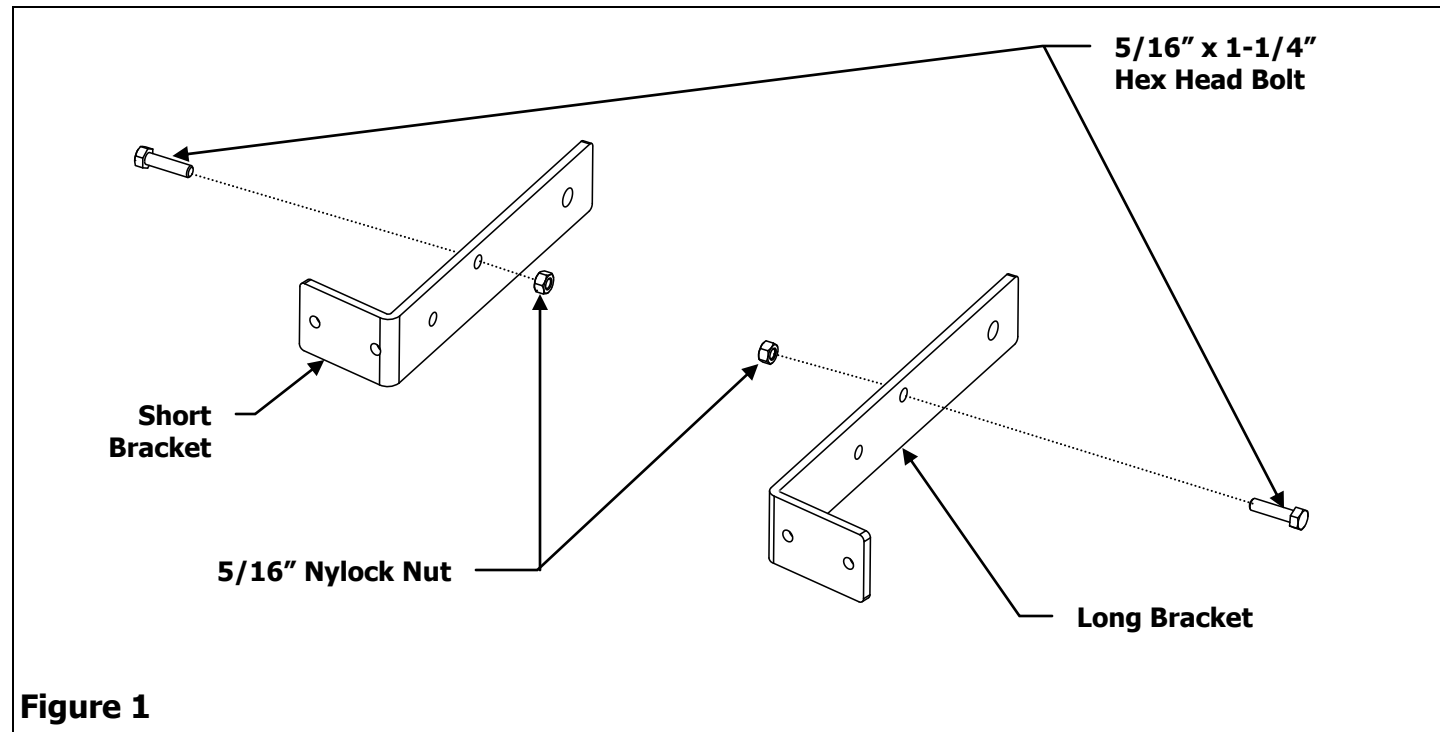

Figure 1
**1 (800) 225-589**
1. Insert a 5/16" x 1-1/4" Hex Head Bolt into the top center hole of both the Short and Long Brackets, secure each bolt with a 5/16" Nylock Nut. See Figure 1.